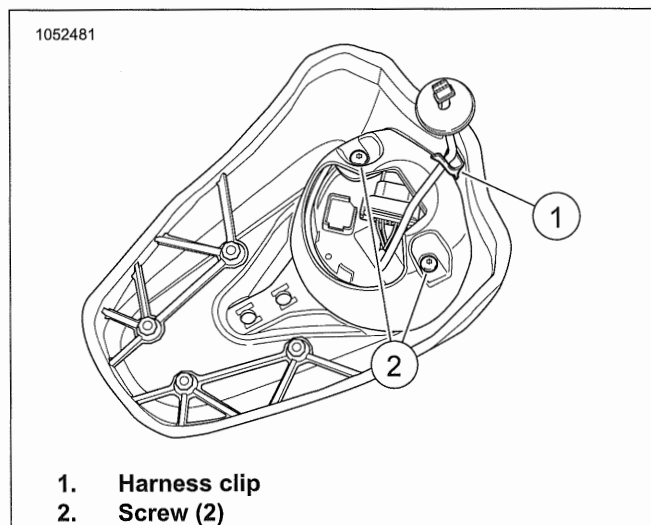
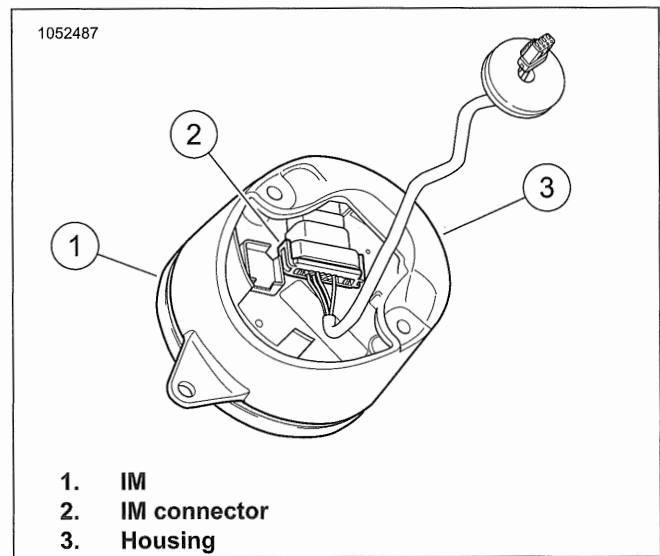
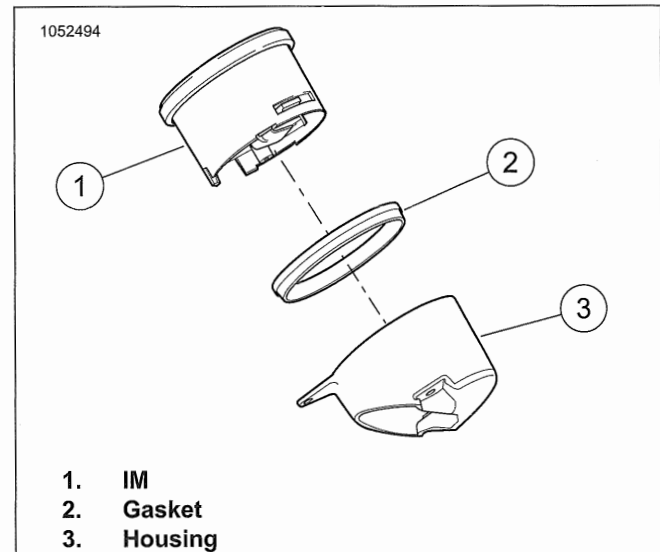

Figure 7-31. Console: FXFB, FXFBS
Figure 7-32. IM and Housing: FXFB, FXFBS
Figure 7-33. IM: FXFB, FXFBS
1. See Figure 7-31. Remove screws (2).
2. Remove harness from clip (1).
4. See Figure 7-32. Disconnect IM connector (2).
5. See Figure 7-33. Pushing from the bottom of the IM (1), separate the IM from the housing (3).
6. Remove gasket (2).
1. See Figure 7-33. Install gasket (2) onto IM (1).
2. Install IM into housing (3).
3. See Figure 7-32. Connect IM connector (2).
5. See Figure 7-31. Install screws (2). Tighten.